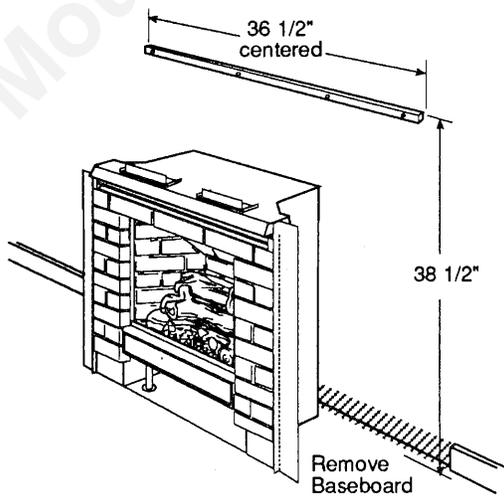

Figure 14. Secure Mantel nailing strip to wall.
Step 10. Secure nailing strips, (1"x1" stock or similar material) to the wall. Fig. 14.